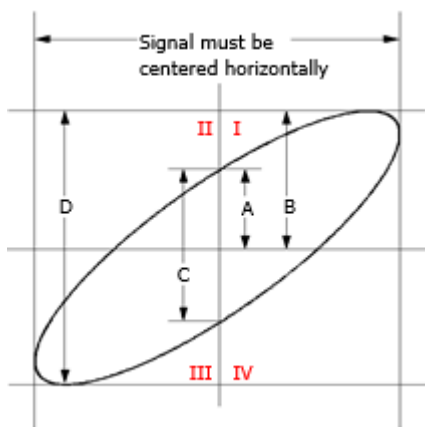

Figure 4-1 Measurement Schematic Diagram of Phase Deviation
4. Observe the measurement result shown in the figure above. According to the measurement schematic diagram of the phase deviation (as shown in Figure 4-1), $A/B(C/D)=1$. Thus, the phase deviation angle of the two channel input